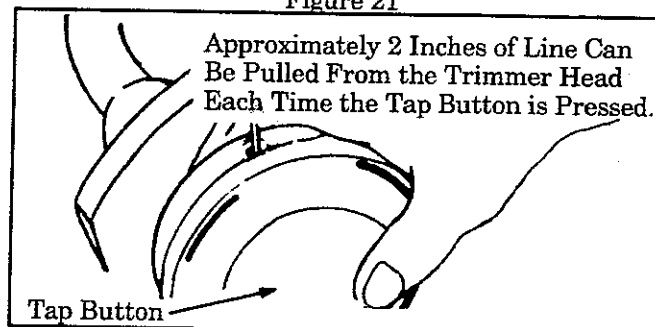

Figure 22
- i. Obtain the correct line length (4-6 inches) by pressing the tap button (Figure 22) and pulling on the line again.
NOTE: Each time the tap button is pressed, approximately 2 inches of line can be pulled from the trimmer head. Figure 22.